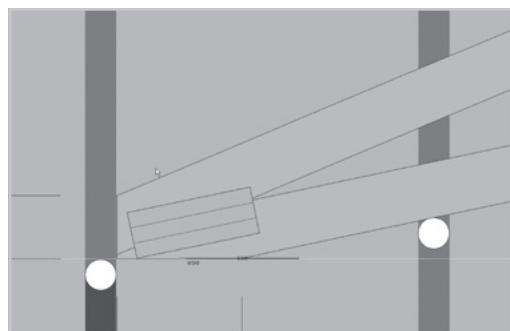

Figure 42
- The selected area will be displayed in a zoom mode (Figure42)